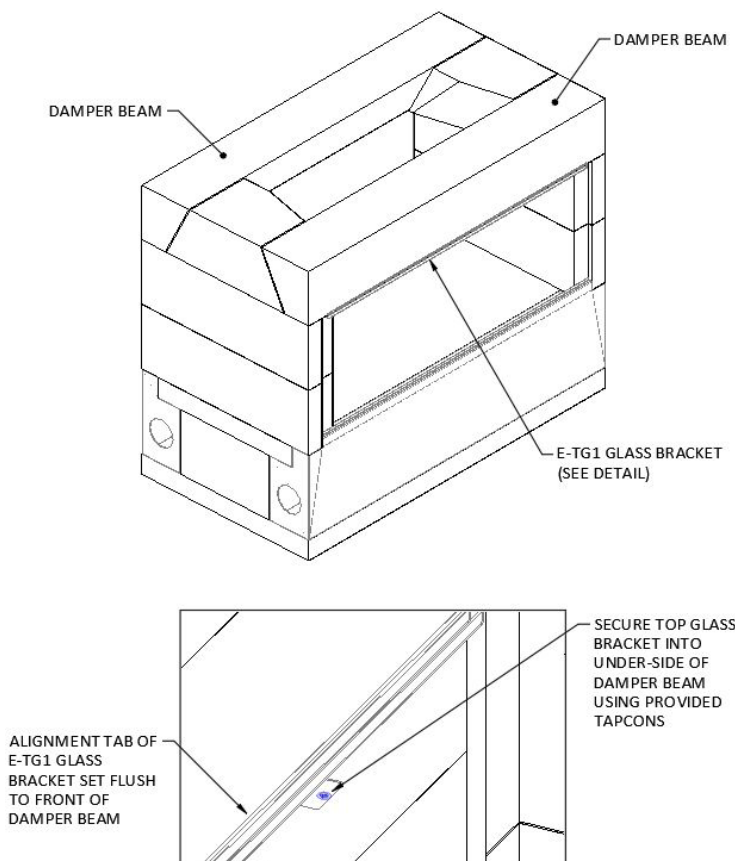

FIGURE 16
- 10) For the 48" model, secure the Top Glass Bracket B (E-TG1) to the underside of the front damper beams using the provided 1/4" tap-con screws. The tap-con screws will require a 3/16" pilot hole to be drilled prior to attachment. It is recommended to coat the 1/4" tap-con screw with Earthcore Adhesive before inserting into pilot hole to create a sealed fastening (**Figure 16**).